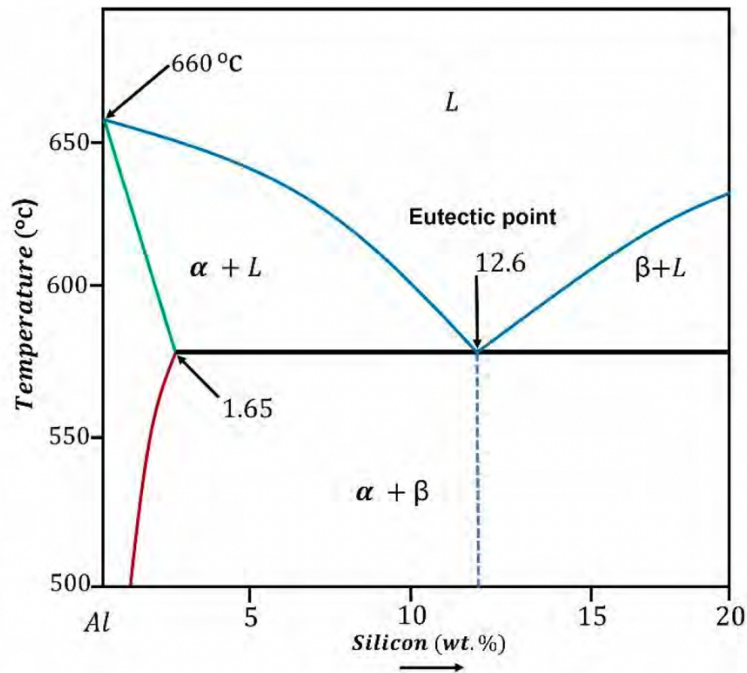

Fig. 3.2: Aluminium-rich end of the aluminium–silicon equilibrium phase diagram
- **Al-Si System (Fig. 3.2):** Maximum solubility of Si in Al is 1.65 wt.% at 577°C . Silicon improves castability, fluidity, and reduces thermal expansion.